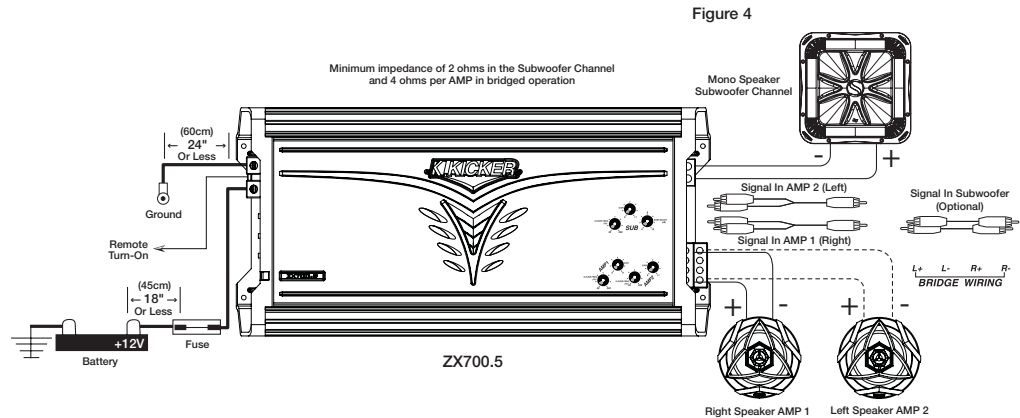

Figure 4
**Bridged (Mono) Operation (ZX700.5)** The ZX700.5 series amplifier is capable of operating into a minimum impedance of 4 ohms when in bridged operation. This allows you to bridge AMP 1 to run the "right" side and AMP 2 to run the "left" side. You will need two RCA Y-Adapters for this configuration. Each AMP is stable down to 4 ohms in this configuration. See Figure 4.